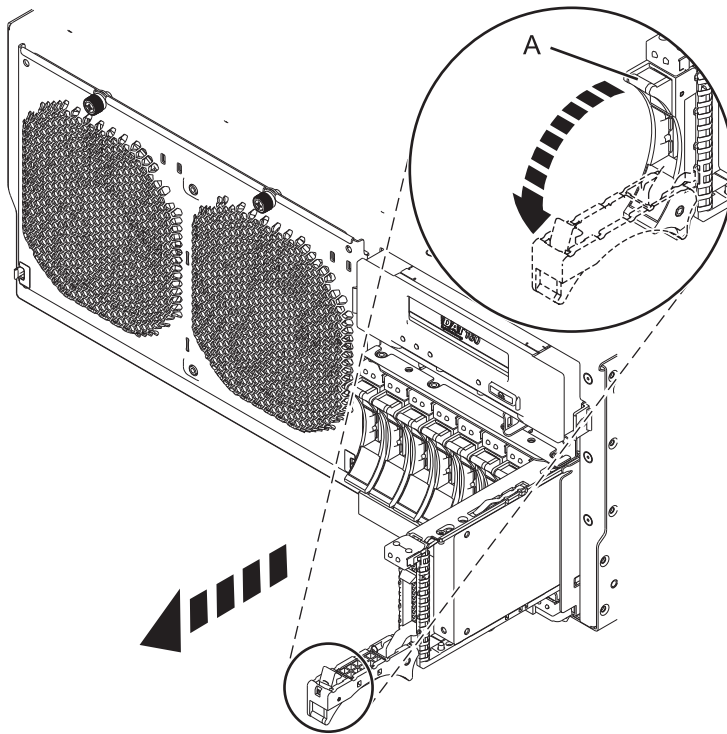

Figure 24. Removing a disk drive from the 8202-E4B, 8202-E4C, 8205-E6B, or 8205-E6C
1. Unlock the disk drive handle by squeezing it and pulling it out toward you, as shown in Figure 24.